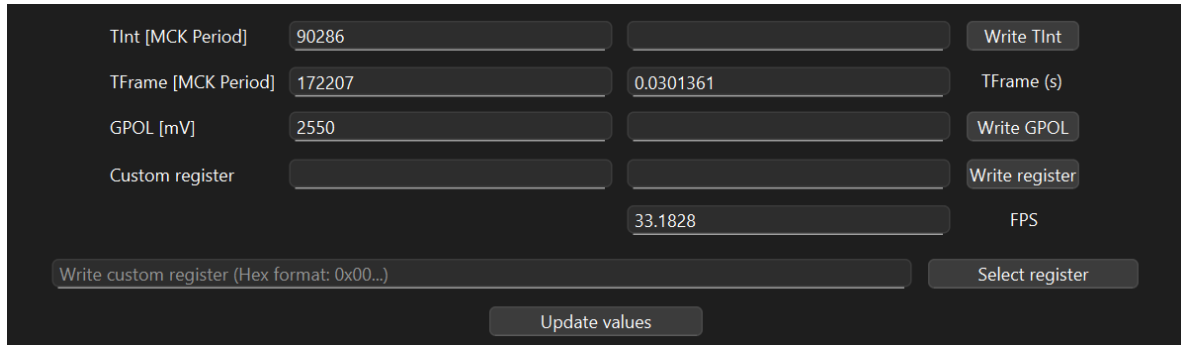

Figure 9: Register grid
Once the device is connected via the COM port, the fields and buttons below will update with the current parameter values of the detector and show as available. The main component of the interface is a grid layout (Figure 9) that includes fields to display the value of the corresponding parameter, and a button and an input field to set the parameter to a new value.
1. Write the register address into the *Write custom register field* (Figure 9). All available addresses can be found in EOLE documentation. Press *Select register* button to save the address.
2. Read and write fields and buttons above (Figure 9) can now be used.